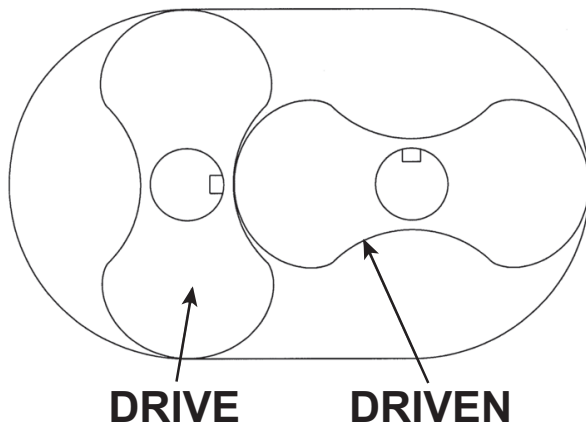

Figure 8-4 – Keyway Position
8. Align the timing marks on the gears (**see Figure 8-3**). Rotate the drive gear clockwise approximately three teeth, and mark a matching reference line on each gear as shown in **Figure 8-4**. This gear position is necessary so rotors will clear and not jam. Do not allow the gears to move from the matched reference line while pulling. Use a light rocking motion to make sure that the lobes have not jammed. Remove the driven gear first, and then remove the drive gear.
2. Stand the rotors on a press with the drive rotor on the left, making sure the keyways are properly positioned as shown in **Figure 8-4**. You may use the drive end plate as a temporary fixture to support the rotor lobes while pressing on the bearings and gears.